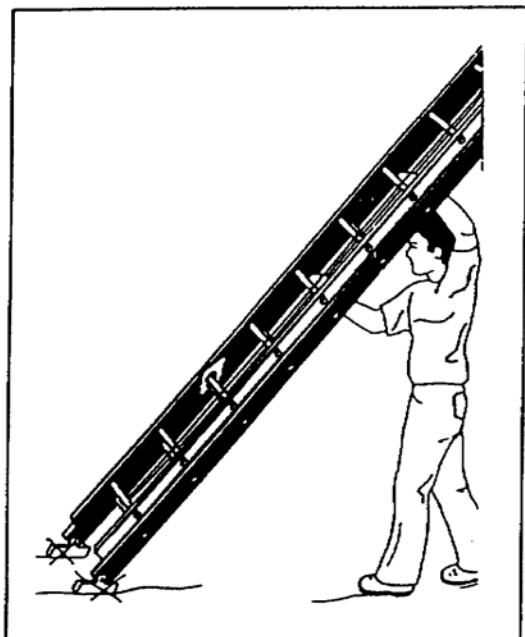
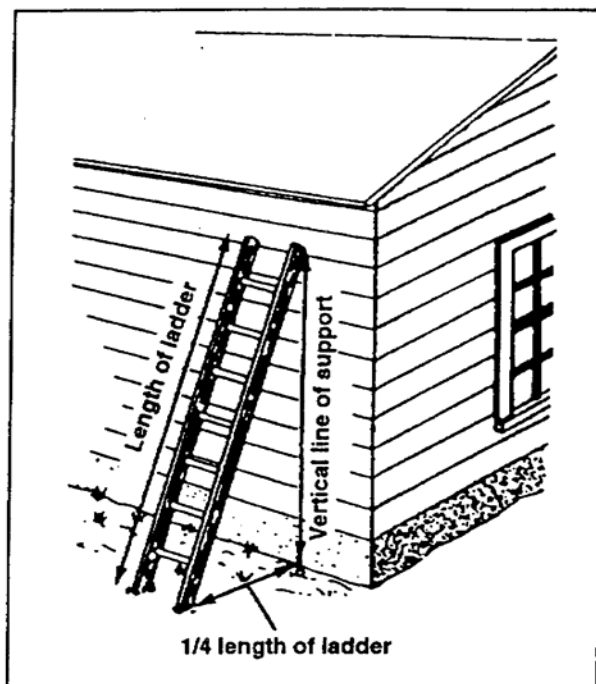
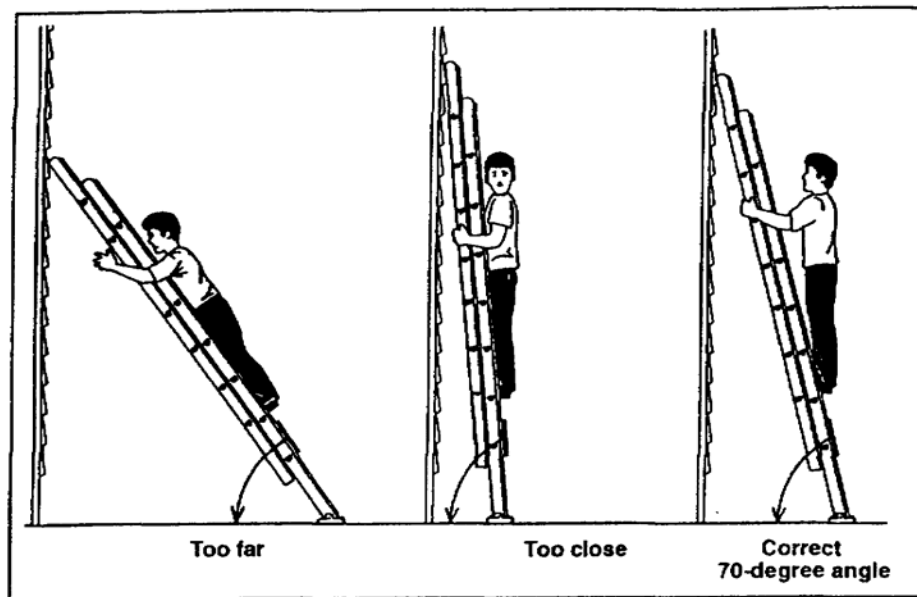

Figure 4-3. Raising a ladder
Figure 4-4. Placing a ladder properly
Figure 4-5. Getting the right ladder angle
(1) Selecting a ladder. Ladder selection depends on the height at which you must work. You will work most efficiently in a space not higher than shoulder level nor lower than knee level. The length of a ladder is critical because the area that you can safely reach is limited. Use a ladder that is long enough for you to reach your work without climbing past the third rung from the top of the ladder.
(2) Raising and placing a ladder. To raise a ladder (Figure 4-3), place the ladder base against the foundation of the building, raise the top end of the ladder, and walk under it toward the building. As soon as the ladder is perpendicular, pull the ladder bottom out from the building to a distance of one-fourth of the working length of the ladder (Figure 4-4). If it is necessary for you to get on top of a building, the ladder must extend at least 30 inches above the eaves. The ideal ladder angle is about 70 degrees, this is shown on the far right of Figure 4-5, page 4-4. At this angle, the feet of a 28-foot ladder touches the ground about 72 inches from the building. The ratio is 1 foot away from the wall for every 4 feet of the ladder's height.